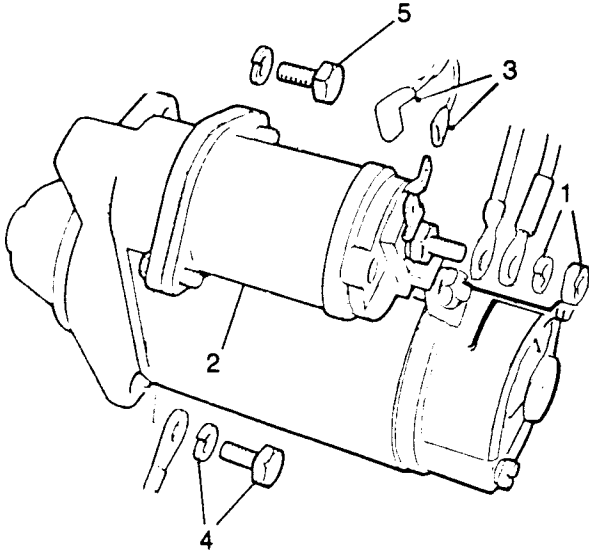

Fig O5.8
- (3) Refer to Fig O5.8. Remove the nut and spring washer (1) and remove the battery lead from the solenoid (2).
- (4) Disconnect the brown and the brown/red leads from their respective connections (3).
- (5) Remove the lower mounting bolt (4), nut and spring washer.
- (6) Remove the upper mounting bolt (5), nut and spring washer, and manoeuvre the starter motor downwards from the vehicle.